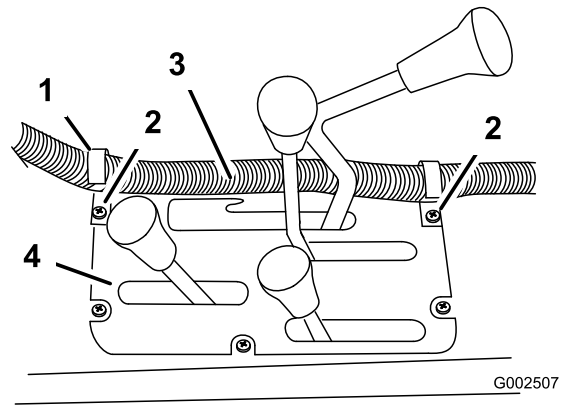
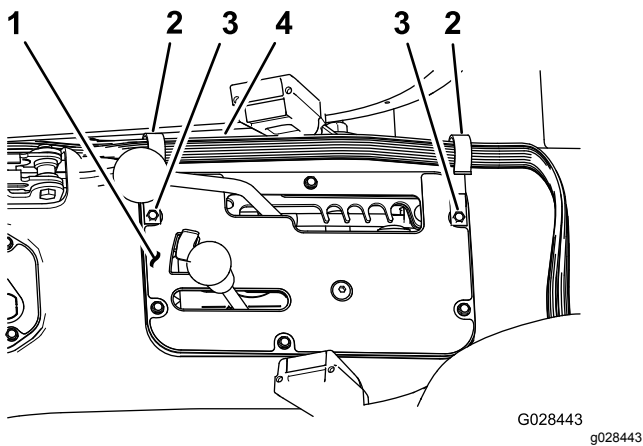

Figure 20
Figure 21
1. Install 2 J-clips in the center console at the points located in Figure 20 or Figure 21 using the existing screws.